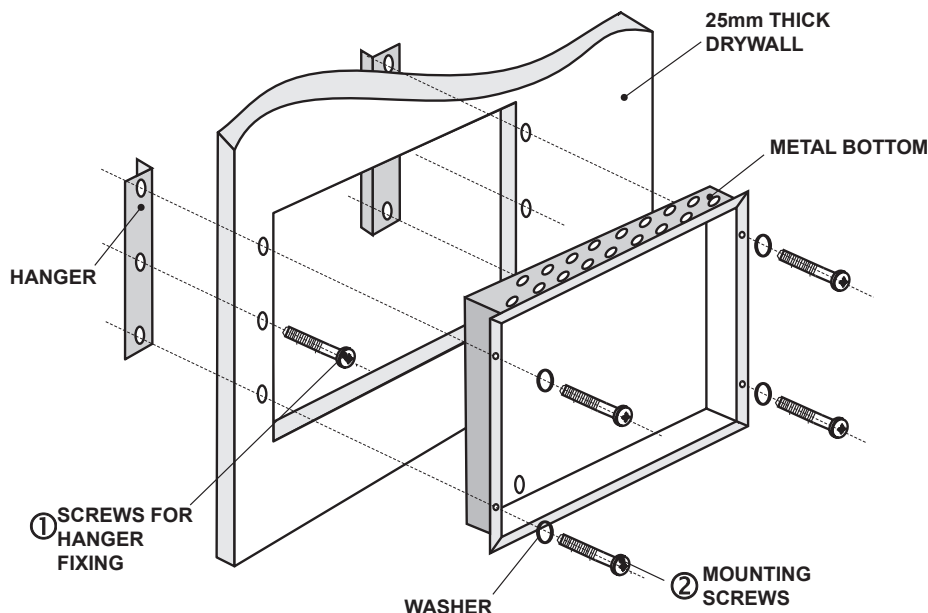

Figure 5. Action sequence for mounting.
- Use the accessory set containing two special hangers (see Figure 5) for mounting of the fire alarm panel on 25 mm thick drywall.
- Fix the hinges on the back side of the gypsum plaster wall with the screws M4x30 cross slot DIN965 from the supplied kit, as shown on Figure 5, Position 1.
- Place the metal bottom in the mounting hole and fix as use the washers M4 DIN522 and the screws M4x40 cross slot DIN7985 - Figure 5, Position 2.